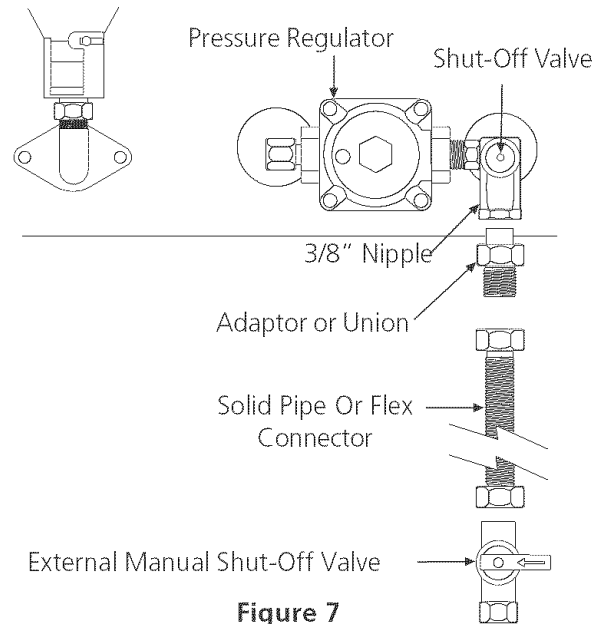

Figure 7
7. Connection to gas (see figure 7)